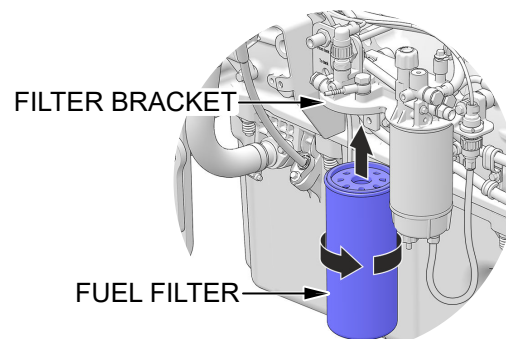

Figure 81. Fuel Filter Replacement
1. Clean around the **fuel filter** (Figure 81).
3. Clean the filter mating surface on the **filter bracket** (Figure 81).